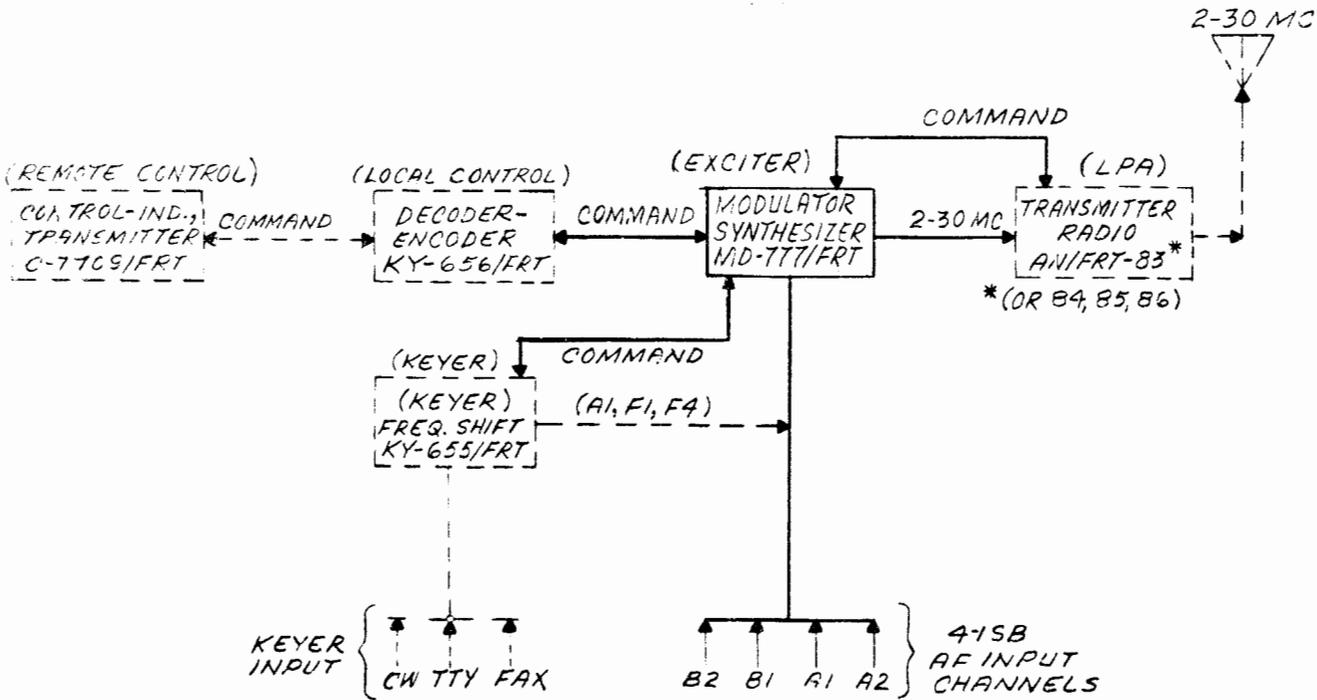

Figure 4-1. Transmitting System Block Diagram
b. TRANSMITTING SYSTEM BLOCK DIAGRAM. - Figure 4-1 is a basic block diagram showing the functional relationship of Modulator-Synthesizer MD-777/FRT (exciter) to other units of the AN/FRT-() transmitter system. Note the command functions which link the exciter to the LPA and to Decoder-Encoder KY-656/FRT. Table 4-1 identifies the command functions and control circuits between the exciter and the LPA. These functions permit direct control of the LPA from the exciter control panel. Table 4-2 lists and identifies the command and control functions between Decoder-Encoder KY-656/FRT (LCU) and the exciter. These functions permit control of the transmitting system from Control-Indicator, Transmitter C-7709/FRT when the exciter REMOTE/LOCAL switch is in the